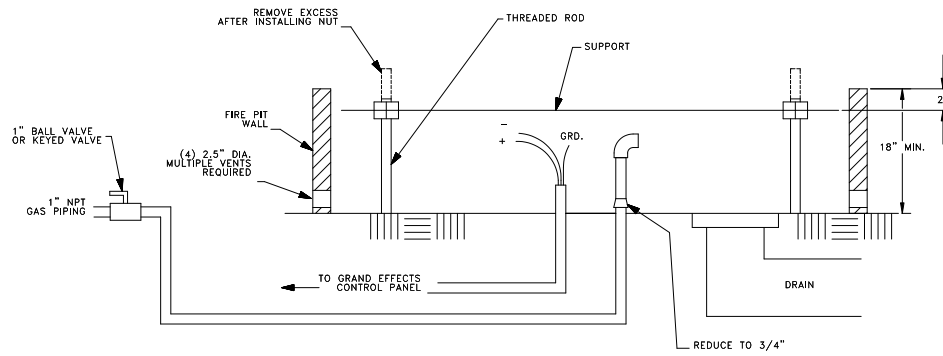

Figure 4: Natural Gas-Residential Installation
3. The piping must be reduced to 3/4" NPT at each burner, as shown in Figure 4, 5 and 6.
Important: Do not come straight up with the gas hose. As shown in Figure 4,5 and 6, a 90° gas pipe elbow must be installed on the gas line for proper installation of the gas hose. The product warranty is voided if it is not installed with an elbow.
Note: The gas and electrical connection should be located at the center of each fire pit. The connections should be installed as shown in Figures 4,5 and 6.
7. The Support Plate can be installed in a few different methods. Smaller Support Plates can be supported using legs (threaded rod) supplied by Grand Effects. When using threaded rod, adjust the height of the support plate as shown in Figures 4, 5 and 6. Cut off the excessive length of bolts. When using threaded rod as legs, the bottom of the fire pit should be concrete to support the weight of the Support Plate, Burner Assembly and decorative media. When using larger Support Plates, stainless “L” brackets may be sufficient to hold Support Plate and burner assembly and media. If not, then structural galvanized angle iron cross members should be included. Cross member supports should be fixed and laid across fire pit in a rigid manner to hold Support Plate, Burner Assembly and decorative media.
8. Venting is required to keep burner electronics from overheating. Venting is achieved with air holes located at the bottom of the fire pit walls as shown in Figures 4, 5 and 6.
Important: There is an 18" minimum depth requirement on residential fire pits and 24" minimum depth on commercial fire pits as shown in Figures 4, 5, 6 and 7.